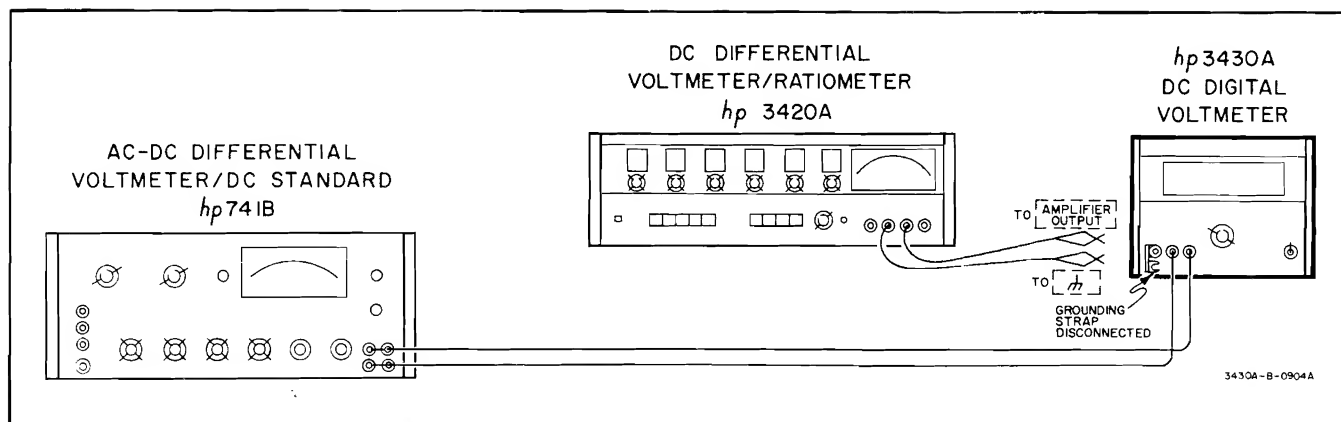

Figure 5-8. Input Amplifier Calibration
- Connect the Model 3430A, a dc standard and a dc differential voltmeter as shown in Figure 5-8. If a dc standard is not available, a suitable dc voltage source can be built using a mercury battery and wirewound potentiometers. The differential voltmeter can be used as a monitor to set the battery supply to the desired output.